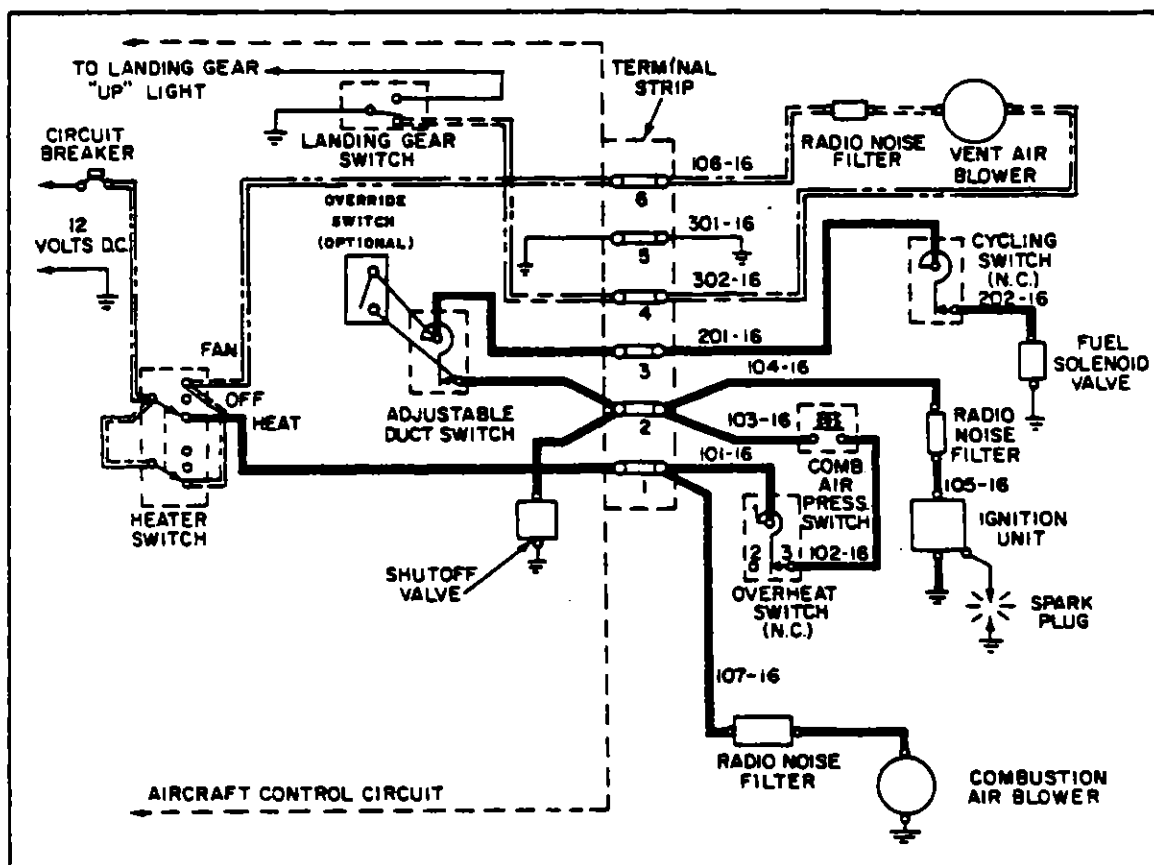

Figure 13-21. Starting Power Circuit
a. With the HEATER SWITCH in the HEAT position, electrical continuity should be present at the following locations. (Refer to Figure 13-21.)